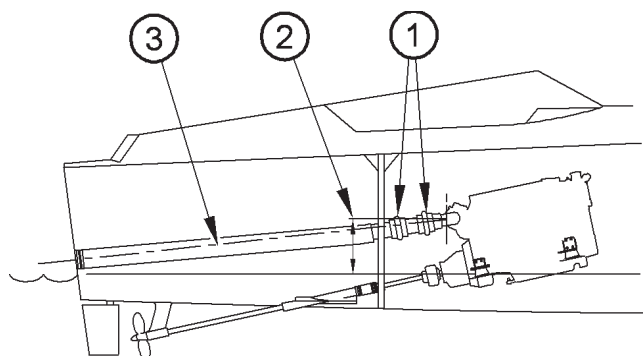

Figure 3
Due consideration must be given to providing flexibility in the exhaust hose, particularly if the engine is flexibly mounted. Where the exhaust hose must pass through a bulkhead immediately behind the engine it is preferable that the arrangement shown in figure 3 is adopted, using rubber bellows (1) to provide flexibility.